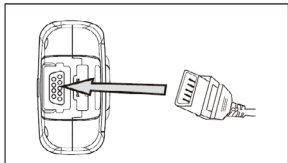

Fig.4.1
2. Insert the SpO₂ probe into the probe socket (refer to Fig.4.1). If the SpO₂ probe is disconnected from the unit, a prompt "Probe Off" will be shown in the status bar in the top left of the display screen.